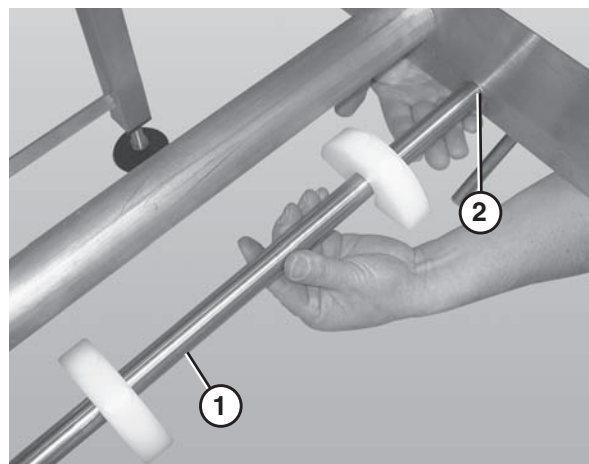

Figure 39
2. Slide the return shaft (**Figure 39, item 1**) up and through the large slot (**Figure 39, item 2**) in the frame (picture shown without the belt or wear strips).
3. Push up on the return shaft (**Figure 39, item 1**) and slide the notched end of the shaft through the small slot on the opposite side of the frame.